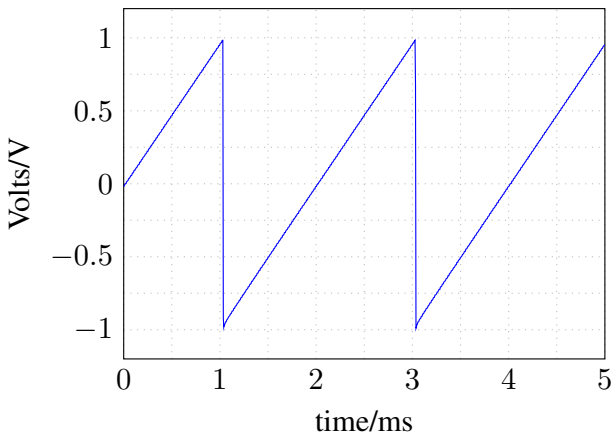

Fig. 44: Centered sawtooth at a frequency of 500 Hz with a 1 V amplitude observed on SAW after tuning TR8 (amplitude) and TR9 (offset).
5. Adjust TR8 and TR9 for a symmetrical sawtooth signal with an amplitude of 1 V (Fig. 44).